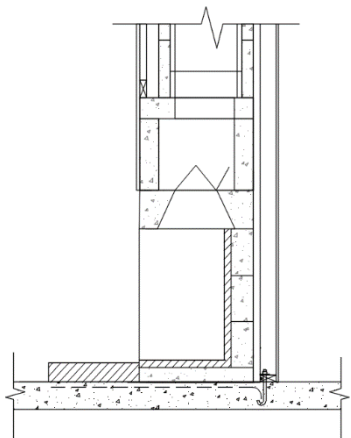

FIGURE 5
1. Slab on grade: standard residential, minimum four inch (4") thick, 2500 psi concrete foundation on properly compacted fill. This type of foundation can support Isokern installations up to thirty feet (30')* overall height without additional structural support. (brick ledge installations not included) **(Figure 5)**